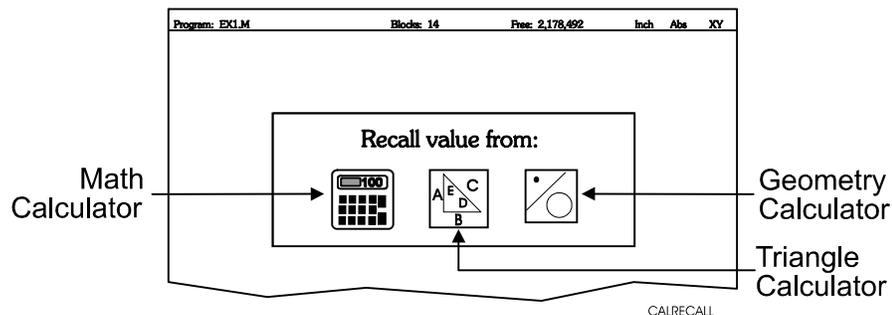

Figure 12-5, Recall Selection Pop-up Menu
The Program Editor always displays **Recall (F2)** when a Graphic Menu activates. Recall calculator solutions stored in memory directly to the entry fields of a Graphic Menu. You can recall stored values only from the same calculator in which they were stored. Use the menu to select the type of recall. Refer to **Figure 12-5**.
2. Press **Recall (F2)** to display the **Select point:** menu. Refer to **Figure 12-5, Recall Selection Pop-up Menu.**